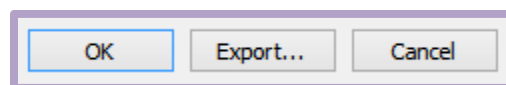

Figure 6.13. The options available for both nodes and elements
- Export the data. The selected node numbers can be exported to a .DAT file by using the export button, as shown in Figure 6.13. If nodes are exported, then the output file will contain the selected node numbers and the corresponding node elevations.